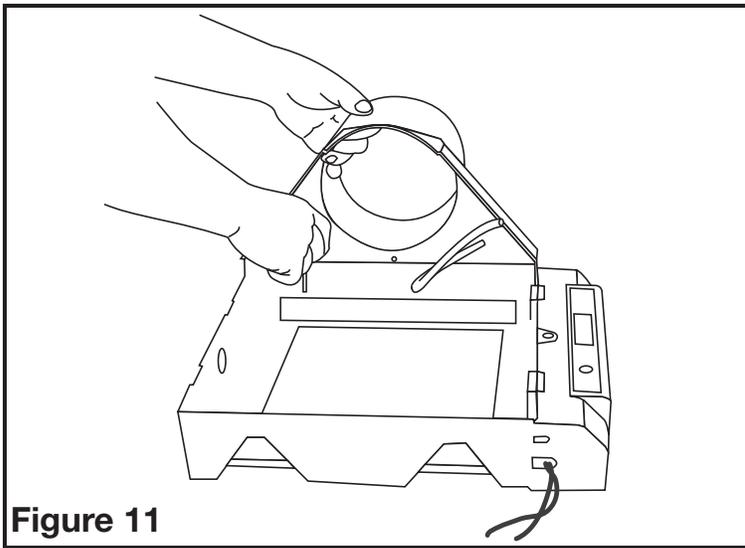

Figure 11
6. Remove the two #6 screws which hold the humidifier side in place (a short handled screw driver will give you easier access to the screws) (**Figure 11**).